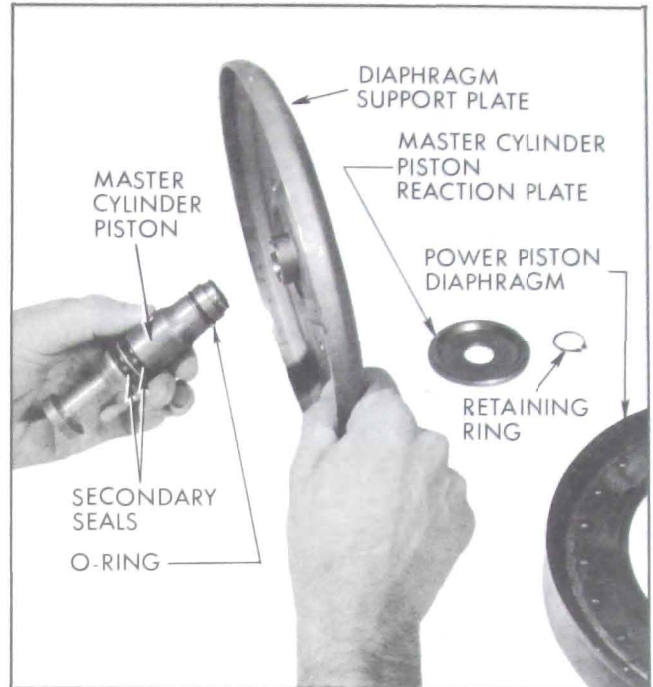

Figure 9-24—Installing Master Cylinder Piston in Diaphragm Support Plate
14. Lubricate master cylinder piston in area of O-ring and also center hole in rolling diaphragm support plate with a thin coat of silicone grease. Push piston through support plate from flange side. See Figure 9-24.